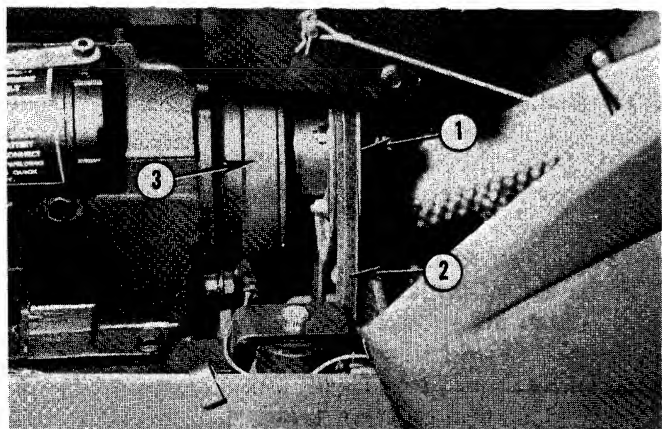

Fig. 38 — Mower Installation
8. Attach mower drive belt, No. 2, Fig. 38, to pulley, No. 1, on implement drive clutch, No. 3.